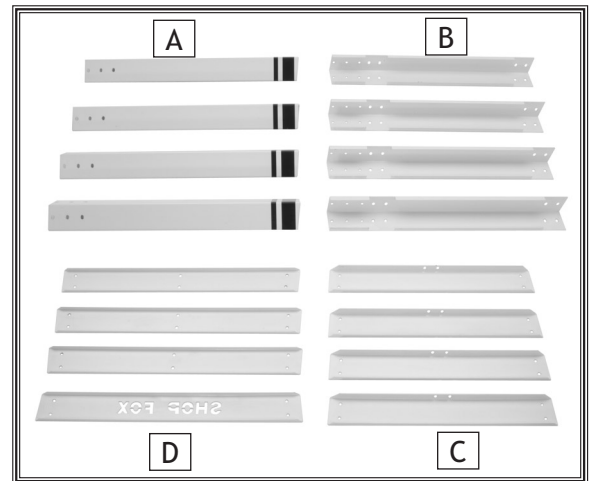

Figure 6. W1809 stand box contents.
- Stand Box Contents (Figure 6):**